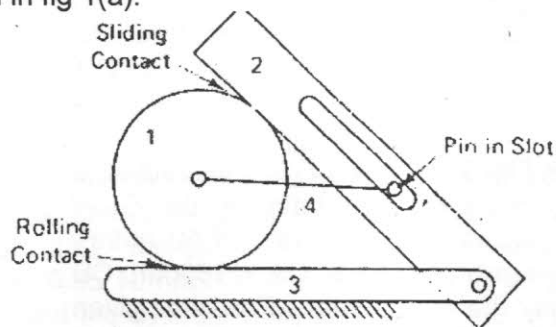

fig.1(a)
1. a) Draw the unscaled LPE and calculate DOF for the original and LPE linkage shown in fig 1(a).